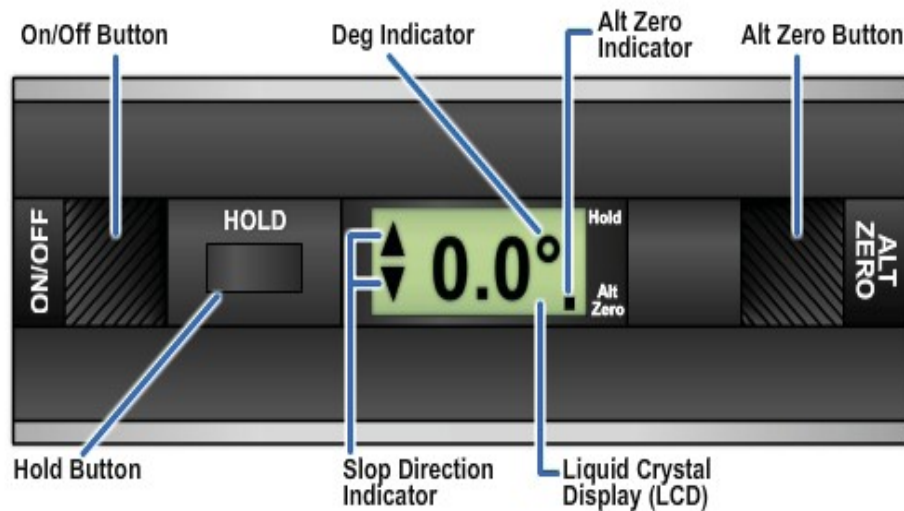

Figure 8-56 - Digital inclinometer.
3. To measure driveline angles, you can use a magnetic base protractor or an inclinometer, but the inclinometer is definitely preferred as it measures relative angles. Good quality electronic inclinometers are not expensive and will quickly pay for themselves in time saved setting up drivelines. To use the magnetic base protractor or an electronic driveline inclinometer, place it on the component to be measured (*Figure 8-56*). Some inclinometers have adapters for attaching to universal joints and end yokes. A display window will show the angle and the direction it slopes. Track the measured angles working from the front of the drivetrain to the rear. A component slopes downward if it is lower at the rear than at the front. A component slopes upward when it is higher at the rear than it is in front.